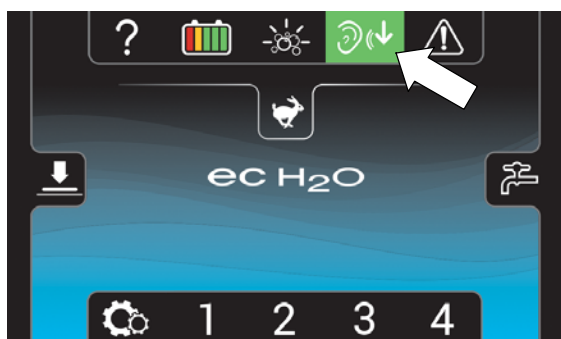

FIG. 52
7.  Press the quiet mode icon to reduce the vacuum motor sound for noise restricted areas (Figure 52). The icon will turn green when activated. Press again to turn off.